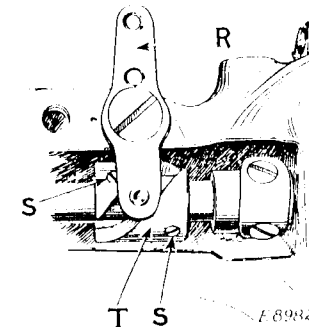

FIG. 7. ADJUSTMENT OF THREAD PULL-OFF LEVER
The thread pull-off lever (R, Fig. 7) should pull off just enough thread to make a smooth, flat stitch. To adjust the pull-off, see that the stitch regulator and the thread measuring device are set
at the same figure as instructed on page 7, then loosen the two set screws (SS, Fig. 7). Turn cam (T, Fig. 7) so that the upper end of the pull-off lever (R) moves further toward the needle bar for a looser stitch, or further away from the needle bar for a tighter stitch. When the cam is correctly set, tighten the two screws (SS).